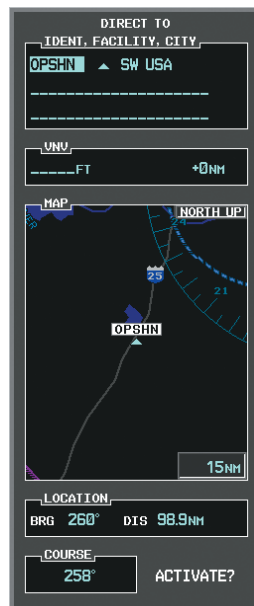

Figure 5-121 Direct To OPRSHN
- c) Press the **Direct-to** (D➔) Key. The Direct-to Window is now displayed as shown in Figure 5-121.